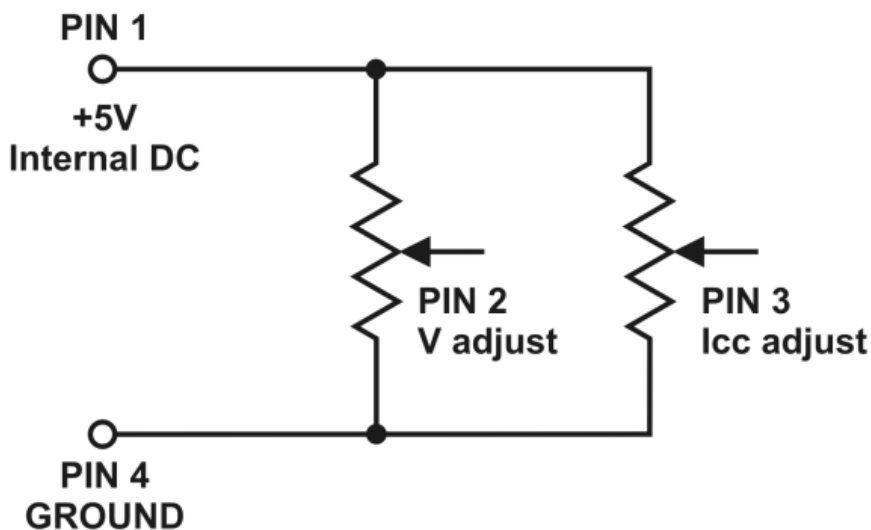

Figure 7 - Variable 5 kΩ Resistors Setup
2. Prepare two 5 k Ω variable resistors and connect wires from pins 1, 2, 3, and 4 as shown in Figure 7.